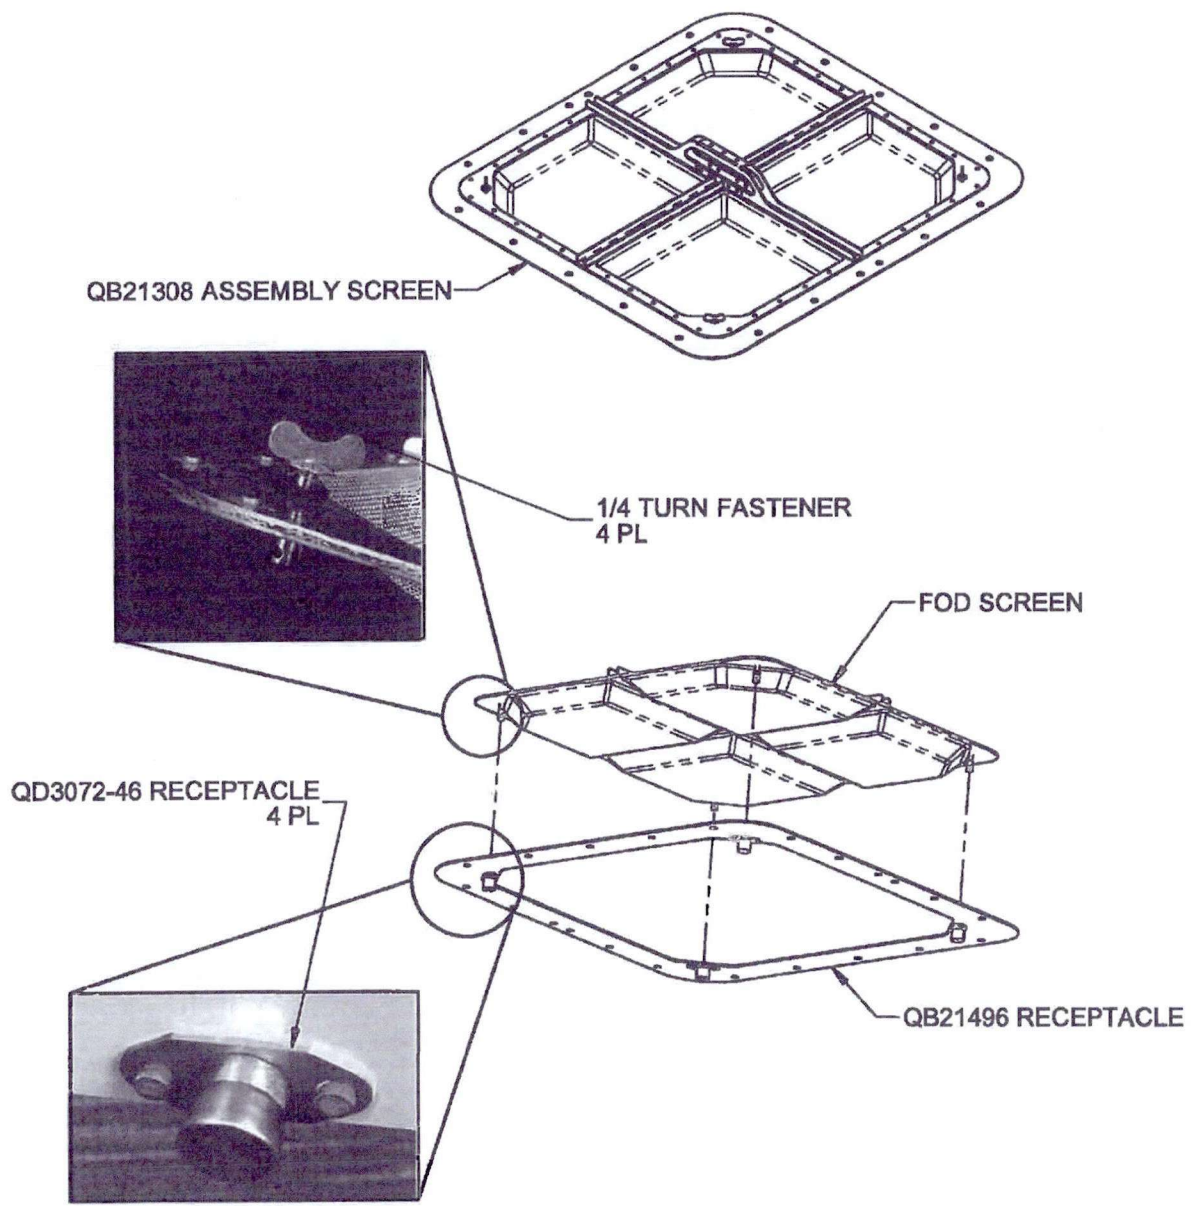

Figure 1 - QB21308 Assembly Screen
- 2.1.3 Separate the FOD screen from the QB21496 Receptacle by turning the 1/4 turn fasteners and lift the FOD screen per Figure 1.
- 2.1.8 Remove qty(4) 1/4 Turn Fasteners from the FOD Screen per Figure 1.